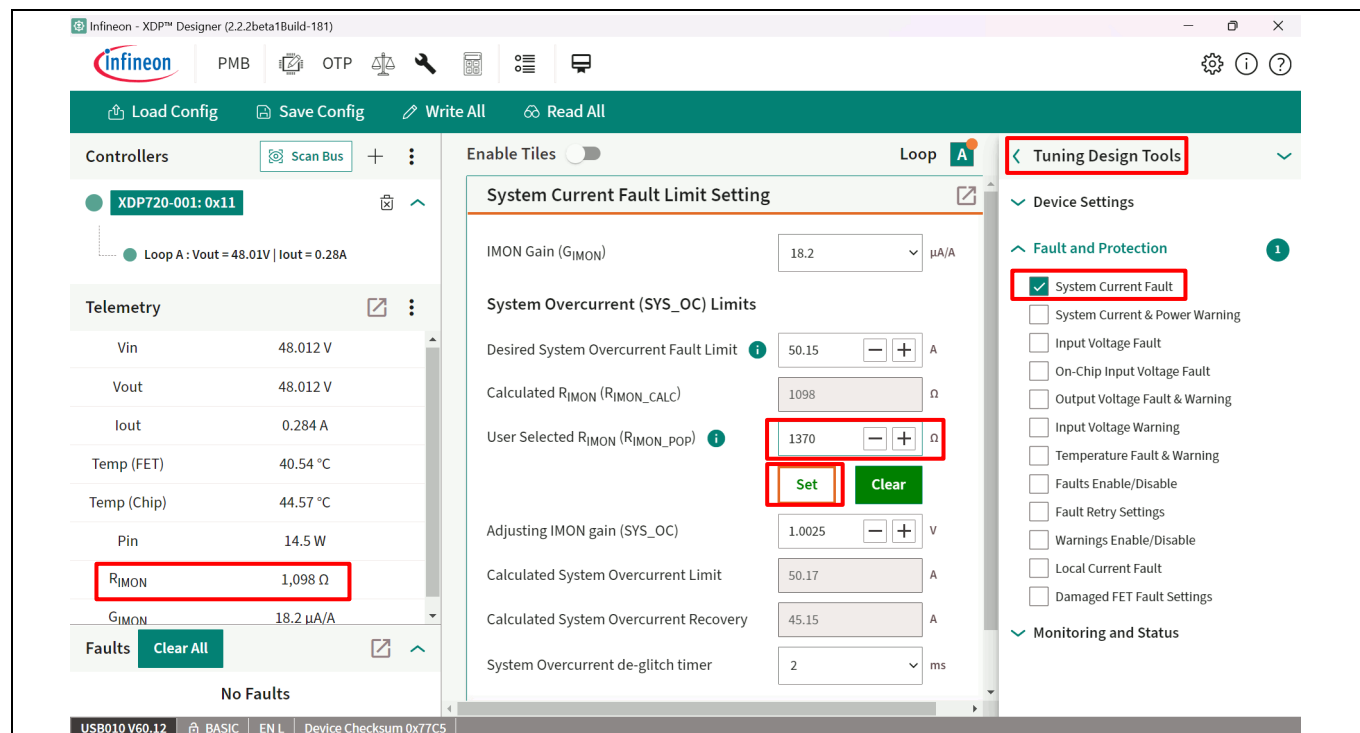

Figure 20 Program IMON resistor value
3. Modify the R_{IMON} value to 1370 Ω and then click **Set**. See Figure 20